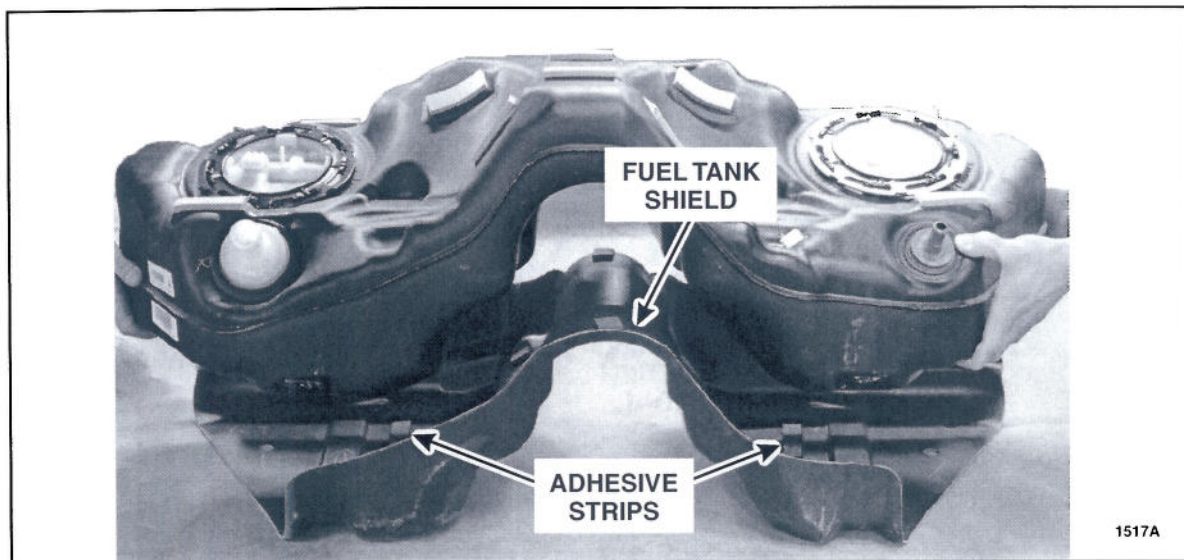

FIGURE 1
2. Remove the fuel tank shield by pulling to release the adhesive strips that secure the shield to the tank. See Figure 1.